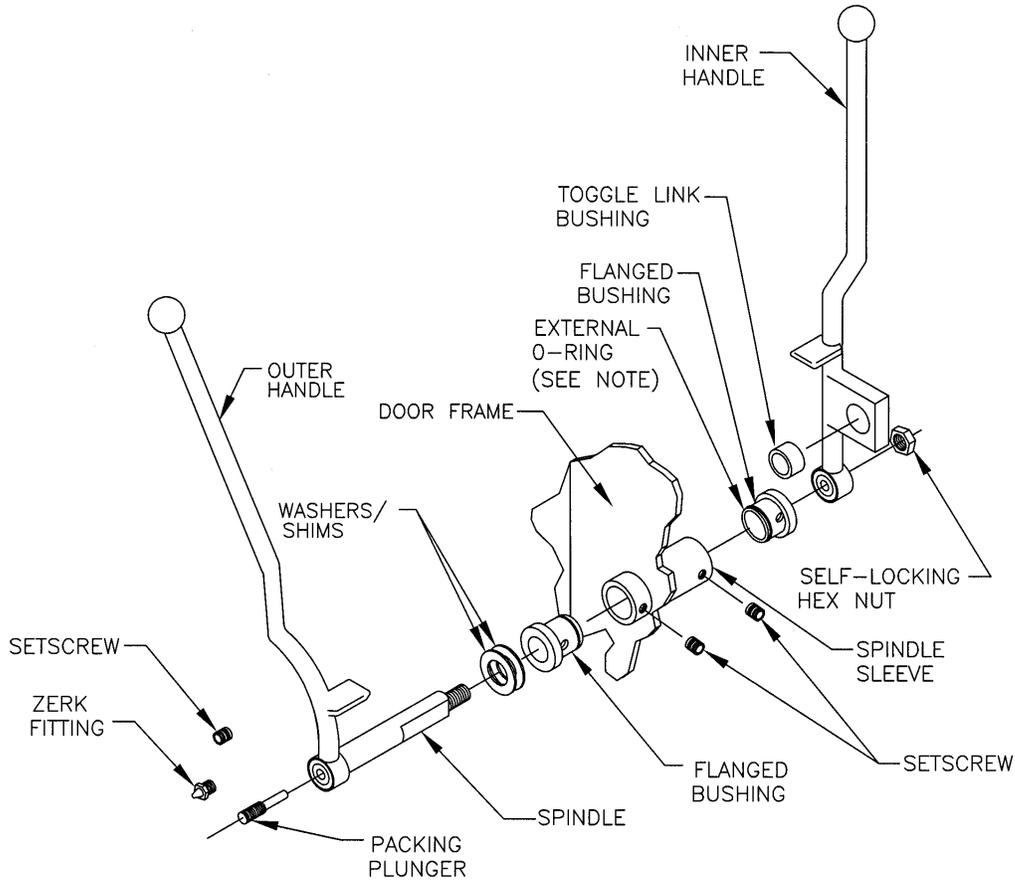

Figure 600-2.54. Quick-Acting Operating Handle Assembly (Left-Hand Shown)
- d. Withdraw the outside and inside handles from the sleeve. Remove both of the flanged bushings from the sleeve. See figure 600-2.54.